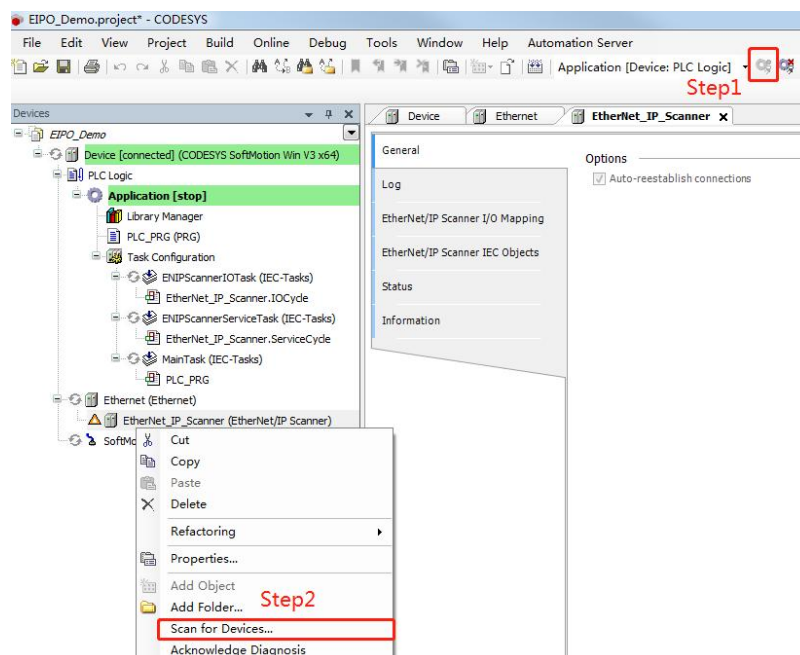
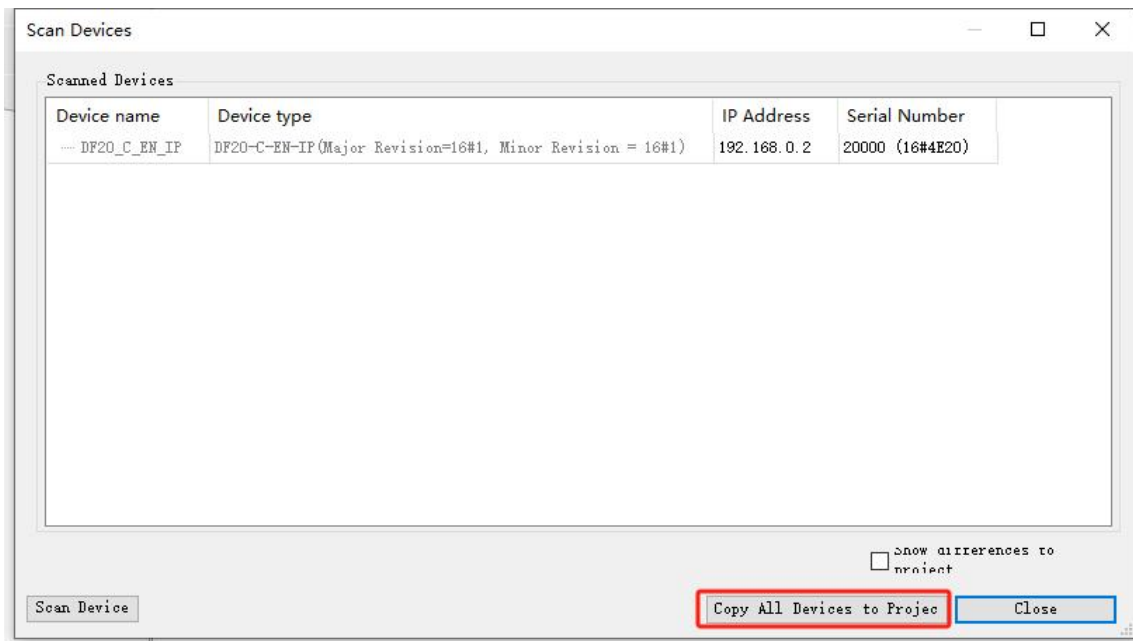

Figure 5-4-10
Figure 5-4-11
- Method 1 for adding devices: As shown in Figure 5-4-10~Figure 5-4-11, scan the EIP slave station (Note: you need to log in before scanning), click **Copy all devices to the project.**